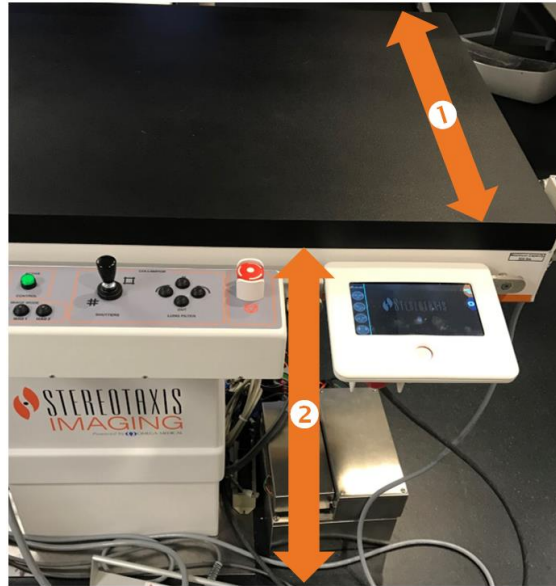

Figure 18. Lateral and vertical table dimension
***Genesis RMN* table guide (Figure 18)**
- ① The lateral table dimension. The patient should be centered laterally on the table so the magnets on either side of the table can move in equally toward the patient.
- ② The vertical table dimension. The table can be moved vertically to adjust the height.
The *Genesis RMN* System can automatically center the magnet positioners in the Navigate position, based on the patient table’s lateral and vertical positions (**Figure 18**). To understand this, it is important to first understand the Navigate position and cover-force sensor.